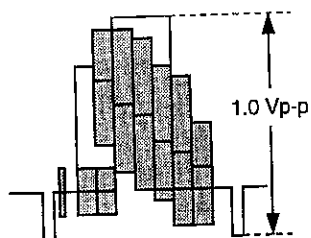

Figure 5-4.
3. Make sure that the E-E signal amplitude is 1.0Vp-p as shown in Figure 5-4.